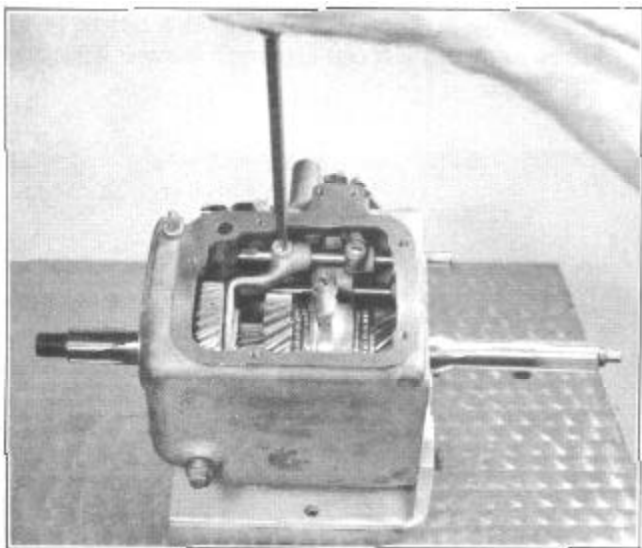

FIGURE 4
9. Remove lock screw from low speed shifter fork and lock screw from the low speed shifter, Figure 4.